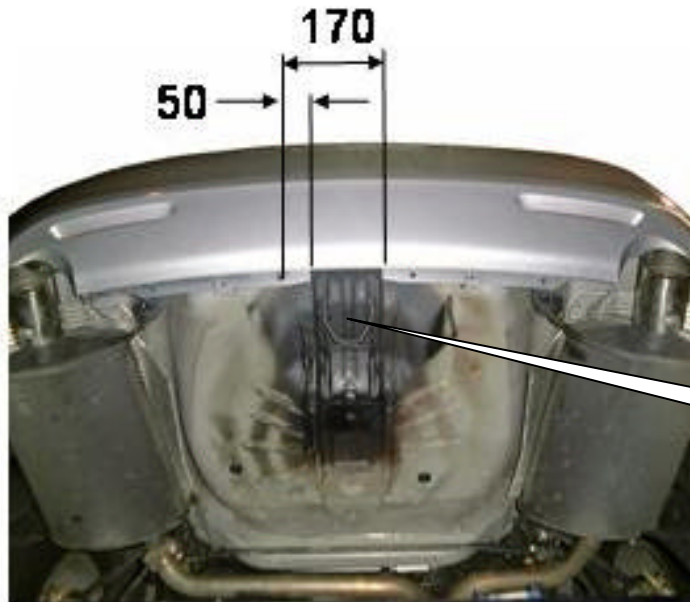

Fig 1
5. Cut bumper as per diagram. Fig 1